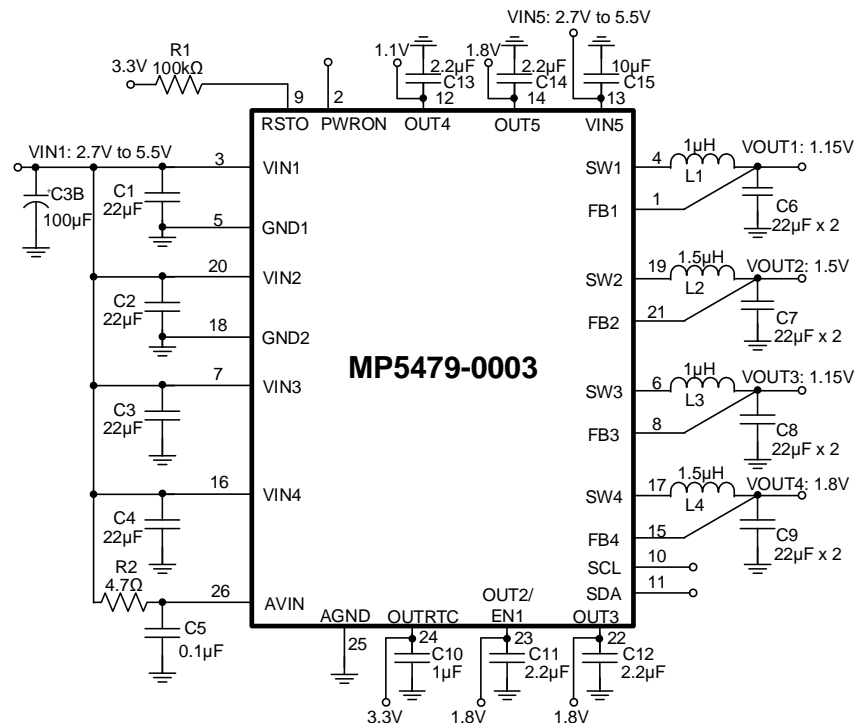

Figure 17: Typical Application Circuit 1 (22) (23)
20) The recommended layout is based on Figure 17 on page 40.